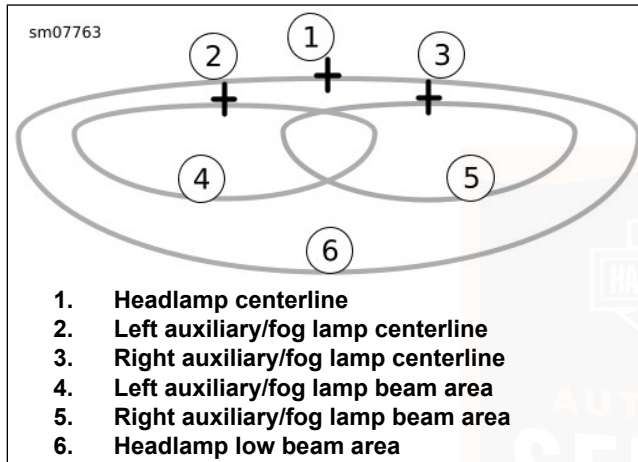

Figure 83. Headlamp Pattern: LED Type with Auxiliary/Fog Lamps
4. See Figure 83. Mark the auxiliary/fog lamp horizontal and vertical centerlines (2, 3) on the wall.
7. Turn on the headlamp low beam and cover both the headlamp and the right auxiliary/fog lamp. Adjust the left auxiliary/fog lamp so the entire high intensity zone (4) is below the centerline as shown in Figure 83.